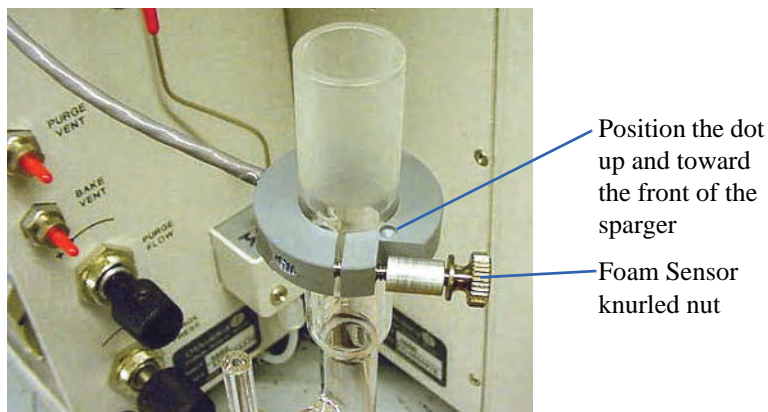

Figure 9.5. Positioning the Foam Sensor option on the glassware
13. Install the Foam Sensor ring by sliding it over the glassware with the smooth surface of the ring and dot facing up. If necessary, loosen the ring by unscrewing the standoff. Center the ring so the dot is located at the front of the sparger. Do not tighten the knurled nut of the Foam Sensor option (Figure 9.5).